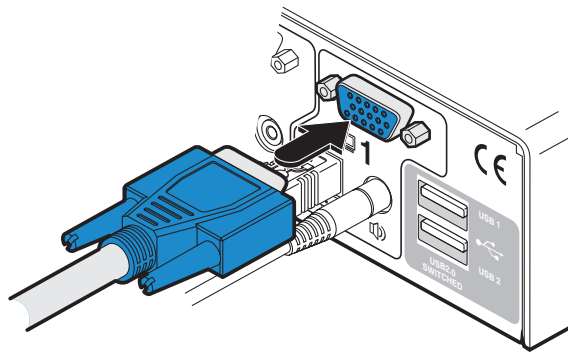

Figure 3-8. Connecting the video lead from a computer to a VGA input port.
- 4 *Single screen units:* Link the video output of the computer's graphic port to the VGA port of the required channel on the rear of the unit. See Figure 3-8.